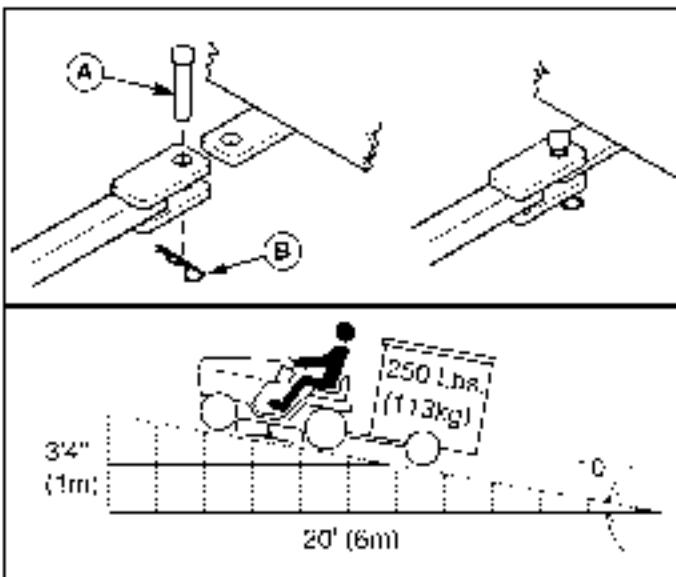

Figure 7. Trailer Weight Recommendations
The maximum horizontal drawbar force allowed is 280 Nm. The maximum vertical drawbar force is 160 Nm. This equates to a 250 lbs (113 kg) trailer on a 10 degree hill. Secure the trailer with an appropriately sized clevis pin (A, Figure 7) and clip (D).